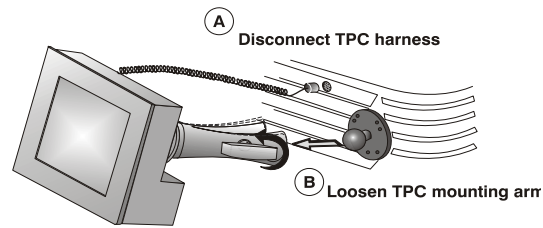

Figure 5-3 Remove TPC
2. Loosen the TPC mounting arm so it can be removed from the ball joint on the back cover of the projector (**Figure 5-3**).